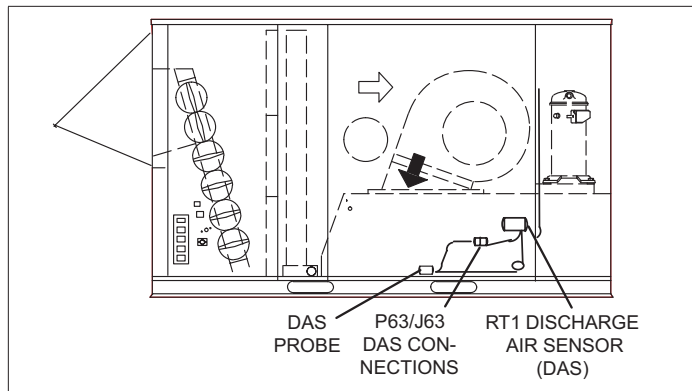
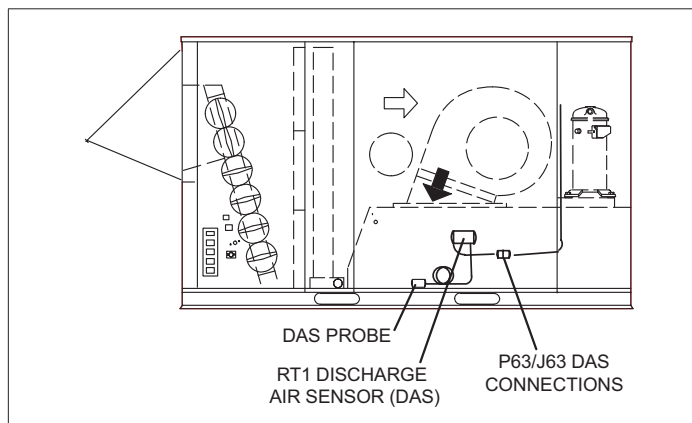

Figure 9. RT1 Discharge Air Sensor (036, 060 Units)
Figure 10. RT1 Discharge Air Sensor (120, 240 Units)
1. Insert discharge air sensor probe into knockout as shown in figure 9 (036, 060 units) or figure 10 (120, 240 units). Secure with two screws provided.